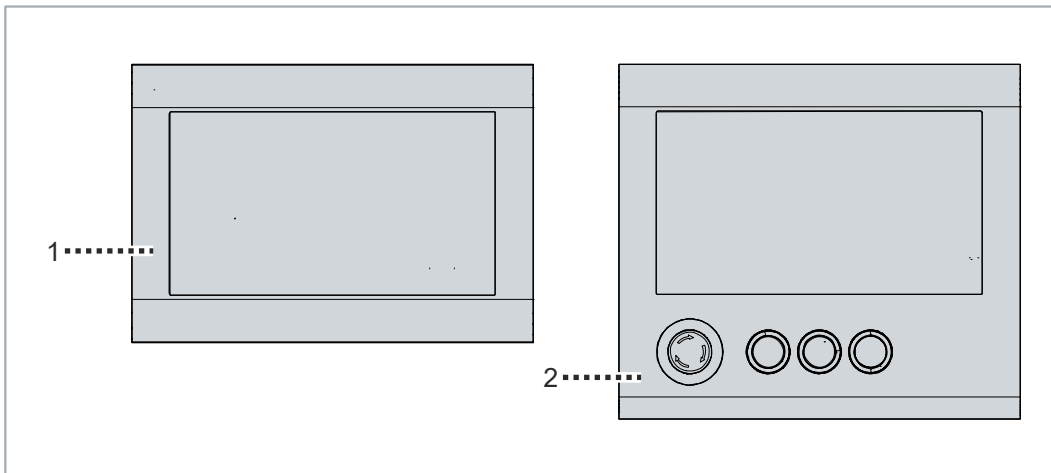

Fig. 1: Panel PC with and without push-button extension
For explanations of the push button extensions and the functions, refer to the manual C9900-G072/G073. Figure 1 shows an example of the panel PC without (1) and with (2) push button extension.